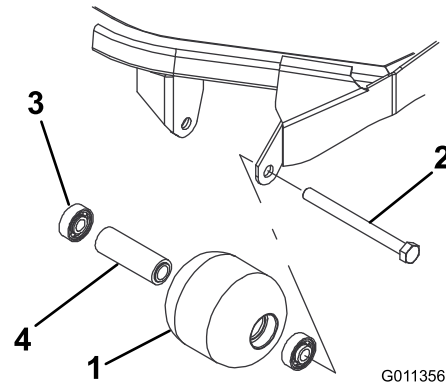

Figure 95
1. Remove the roller-mounting bolt (Figure 95).
4. Inspect the roller housing, bearings, and bearing spacer for damage (Figure 95). Replace any damaged components and assemble them.
1. Press the first bearing into the roller housing (Figure 95). Press on the outer race only or equally on the inner and outer race.
2. Insert the spacer (Figure 95).
3. Press the second bearing into the roller housing (Figure 95). Pressing equally on the inner and outer race until the inner race contacts the spacer.